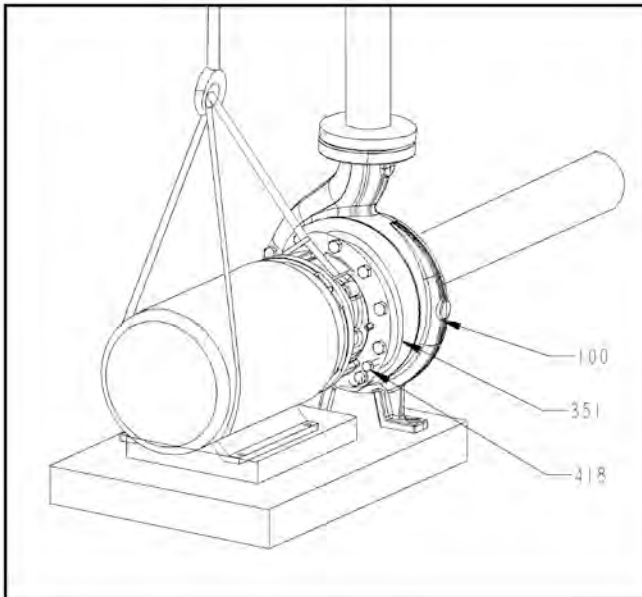

Figure 74:
1. Clean casing fit and install casing gasket (351) in place on seal chamber/stuffing box cover.
2. Install back pull-out assembly in casing (Fig. 74).